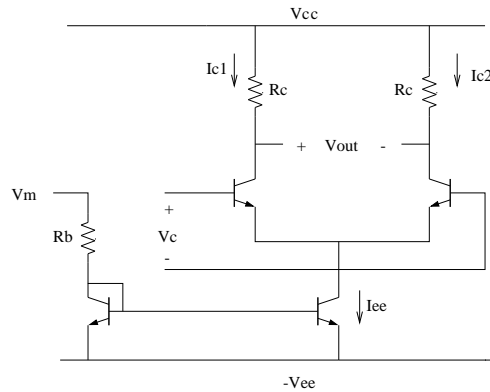

Figure 3: Two-Quadrant Multiplier
After all this modeling, you would probably guess that there has to be a circuit that performs multiplication. And you would be right, Figure 3 is one of the simplest multipliers: a variable transconductance, emitter-coupled-pair multiplier.
1. **HSPICE Analysis:** Simulate the circuit in Figure 3 using the Spice deck provided on the EE133 web page. Use  $R_c = 2.2\text{k}\Omega$ ,  $R_b = 510\Omega$ ,  $RQ1_a = RQ2_a = 27\text{k}\Omega$ , and  $RQ1_b = RQ2_b = 15\text{k}\Omega$ .